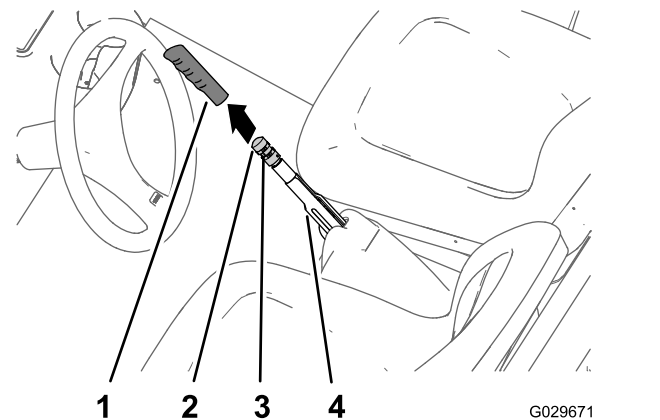

Figure 62
1. Remove the handgrip from the parking-brake lever (Figure 62).
2. Loosen the set screw securing the brake-adjustment knob to the parking-brake lever (Figure 62).
3. Rotate the brake-adjustment knob until you reach a force of 133 to 156 N (30 to 35 lbf) to engage the parking-brake lever (Figure 62).
4. Tighten the set screw and install the hand grip (Figure 62).
2. Loosen the set screw (Figure 62) securing the brake-adjustment knob to the parking-brake lever, disengage the parking brake, and loosen the brake-adjustment knob.
5. Rotate the brake-adjustment knob (Figure 62) until a force of 133 to 156 N (30 to 35 lbf) is required to engage the parking-brake lever.
- C. Rotate the brake-adjustment knob (Figure 62) until a force of 133 to 156 N (30 to 35 lbf) is required to engage the parking-brake lever.
- Tighten the set screw and install the handgrip (Figure 62).